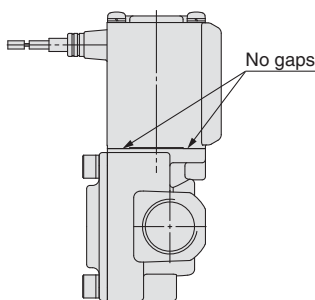

Fig. 1
- 2) Push the coil assembly against the body and tighten the screws two or more rounds diagonally (Fig. 2) in the status that there are no gaps between the coil assembly and body (Fig. 1).
- * After tightening the screws, make sure that there are no gaps between the coil and body (Fig. 1).